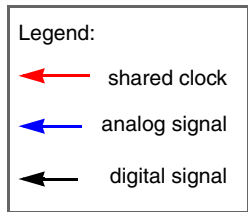

Figure 5-10. ADC, TIMER, PWM, and Comparator Interactions
- Figure 5-10 illustrates how the PDB is integrated on-chip. The sole purpose of this block is to manage the delay between an external event and the time at which comparator, ADC, or PGA samples are taken.